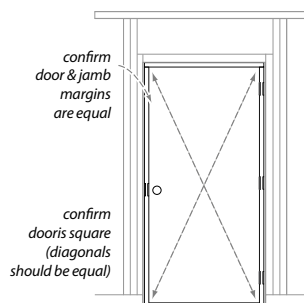

Figure 6
- a. Once the door and frame are installed, double check operation and reveals for proper alignment (figure 6).